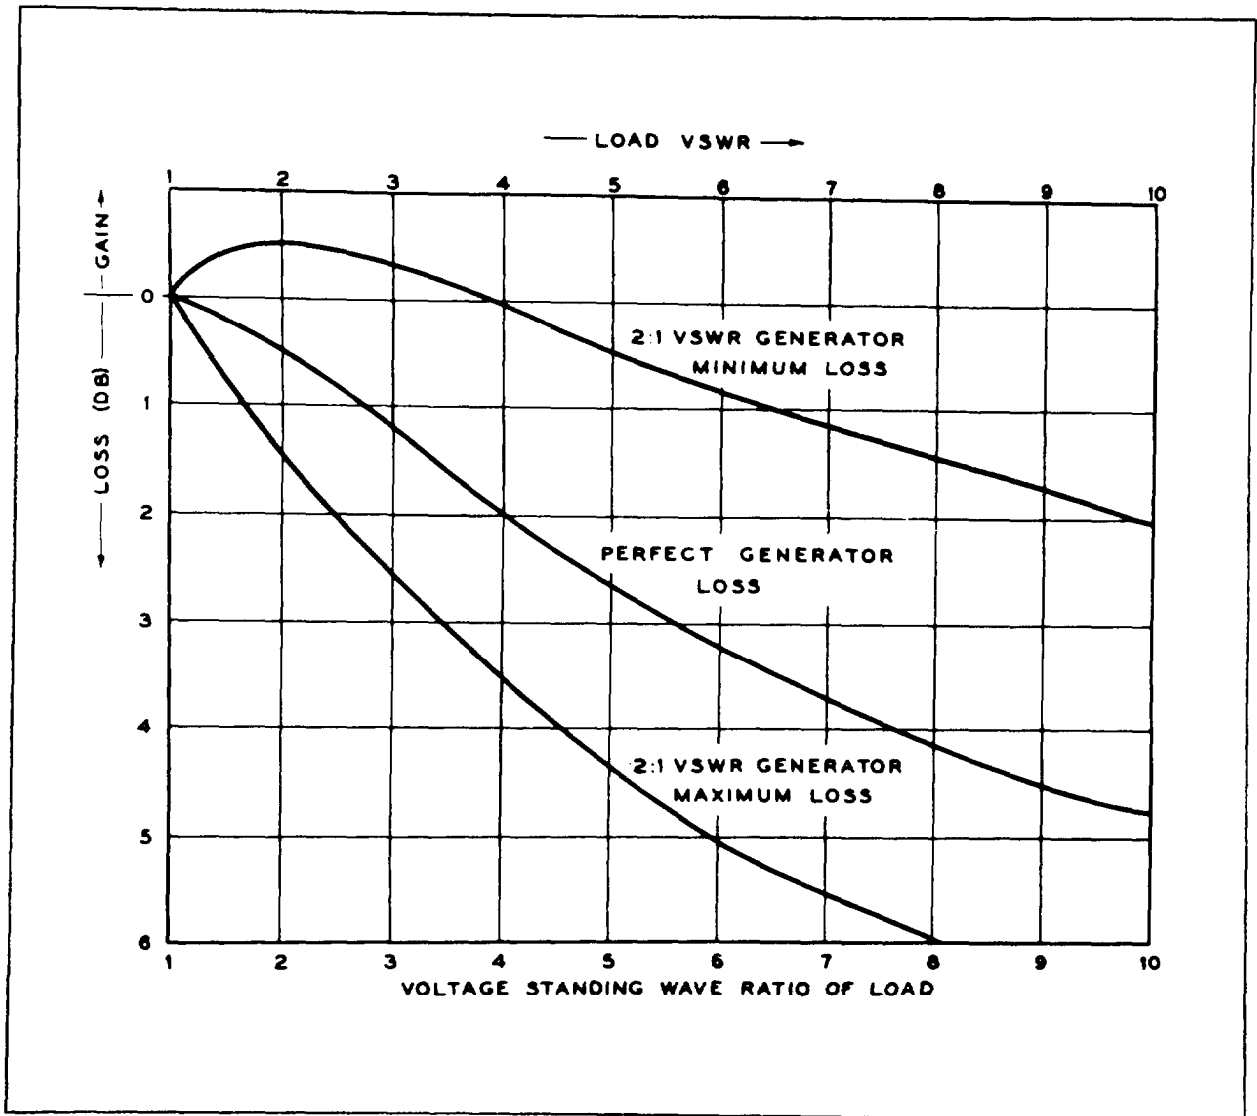

Figure 5-1. Power Loss Versus Load, Voltage Standing-wave Ratio
b. The internal impedance of the Signal Generator TS-419/ U has been maintained sufficiently close to 50 ohms so that the VSWR, looking into the instrument through the RF OUTPUT connector, is in the worst case less than 2:1(6 db). For a generator which is a perfect match to the transmission line, any mismatch of the load to the line will result in reduced power transferred to the load. Since the signal generator is not perfectly matched to the line, a mismatch between the load and the nominal 50-ohm resistive impedance of Signal Generator TS-419/U may cause either an increase or a decrease in power delivered to the mismatched load, as compared to that which would be delivered to a 50-ohm resistive load. The loss due to mismatched loads for a perfect signal generator and the range of loss for the maximum allowable VSWR on the actual signal generator are shown in figure 5-1.